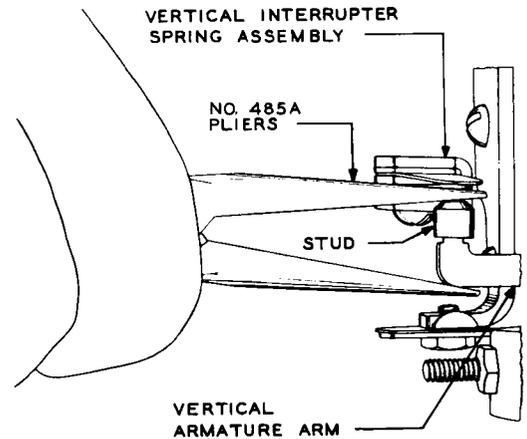

Fig. 6 – Method of Replacing Stud on Vertical Armature Arm
3.04 Stud for Operating Vertical Interrupter Springs: To replace the stud, remove it by cutting it with the diagonal pliers. Hold the new stud on the end of the bell crank arm or vertical armature arm using the 319B extractor, and force it into position with the 485A pliers. Take care not to mar the finish on the arm or to break the stud. If difficulty is experienced in forcing the stud onto the arm, heat the arm slightly with a soldering copper to soften the stud sufficiently to permit it to be forced into position on the arm. Fig. 6 shows the method of mounting the stud on a vertical armature arm.